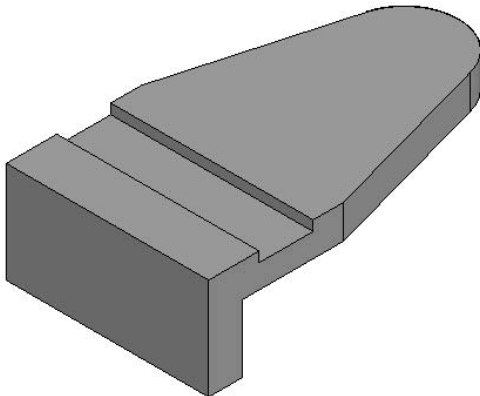

Figure 5-53 Model after creating the second feature
9. Choose **Finish** from the command bar to complete the feature. The model after creating the second feature is shown in Figure 5-53.